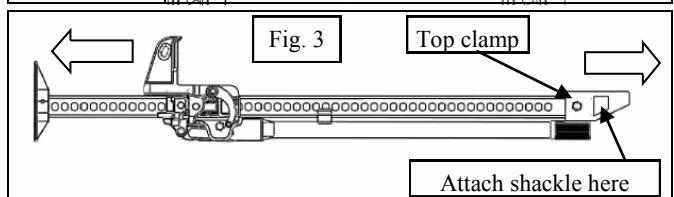

Fig. 3
2. Loosen the top clamp bolt and rotate clamp so that it is in-line with the steel bar frame. (see Fig. 3) Retighten bolt to 64 ft-lbs.